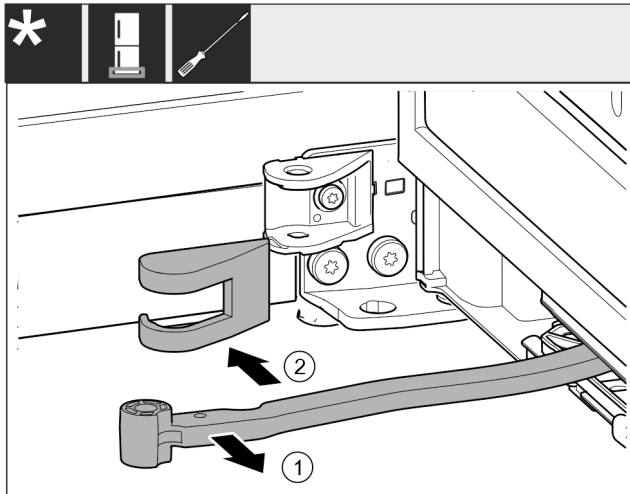

Fig. 14
- ▶ Turn the hinge in the direction of the door. Fig. 14 (1)
- ▶ Remove the bearing bracket cover. Fig. 14 (2)